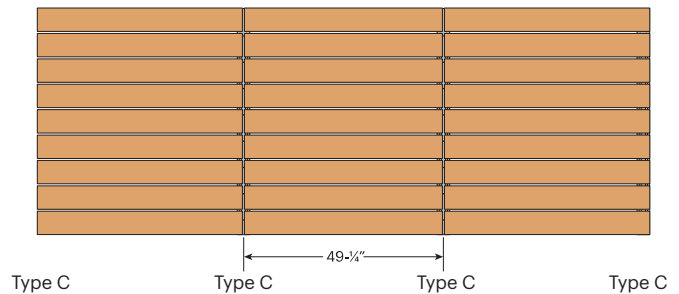

**FIG. H5**
4. Spacing between SLAT profiles in the same plane must be 3/8" (10mm) to maintain a 3/8" open joint size between panels (**FIG. H5**). Slats must also be attached to the same SLAT Profile.